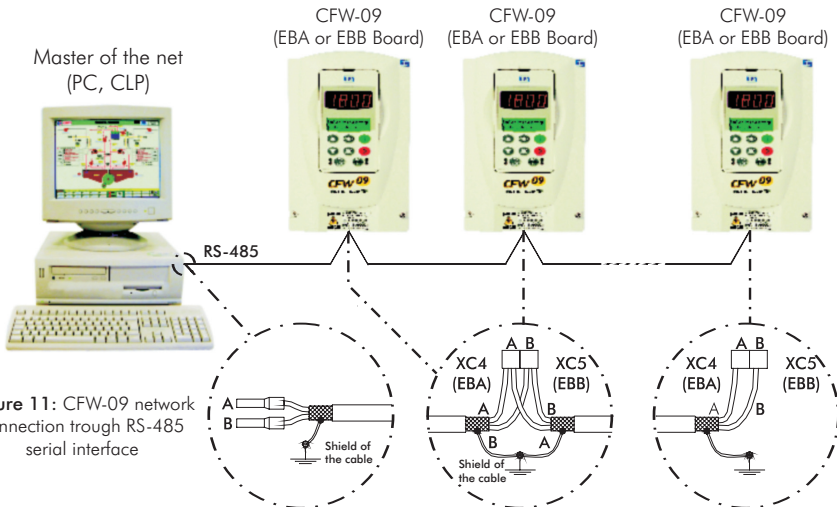

Figure 11: CFW-09 network connection through RS-485 serial interface
- 1) Line termination: include line termination (120 Ω) only at the network ends. (See table 2 or 4 - fig.11);